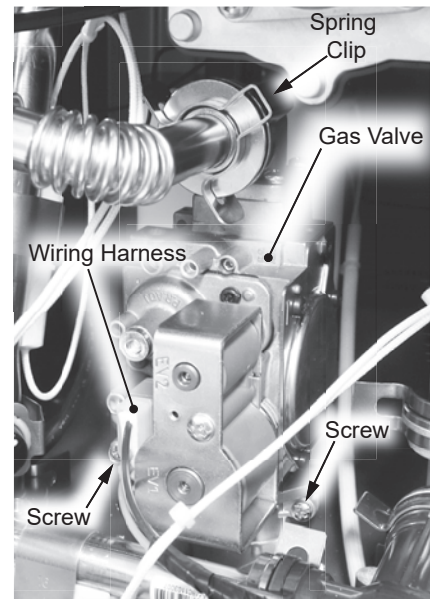

Figure 81 - Gas valve location and connections
- 7 Locate the gas valve at the bottom left side of the water heater. See Figure 81.
- 8 Remove and keep the screw securing the wiring harness to the gas valve. See Figure 81.
- 9 Locate and remove the spring clip securing the gas valve to the gas piping system. Note its orientation and place it aside for reinstallation. See Figure 81.
- 10 Remove and keep the screw at base of the gas valve. See Figure 81.